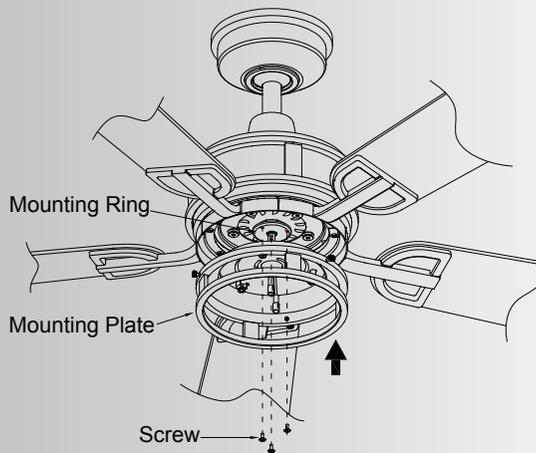

Fig. 20
**Step 1.** You will find one red label on the mounting ring. Remove the 3 screws preinstalled on mounting ring and keep them for reuse later. Align the red dot labels on the mounting plate to the mounting ring. Attach the mounting plate to the mounting ring with three screws removed previously. Please adjust the mounting plate if necessary, to line up the rim both on the motor body and mounting plate. Tighten the 3 screws securely.(Fig. 20)